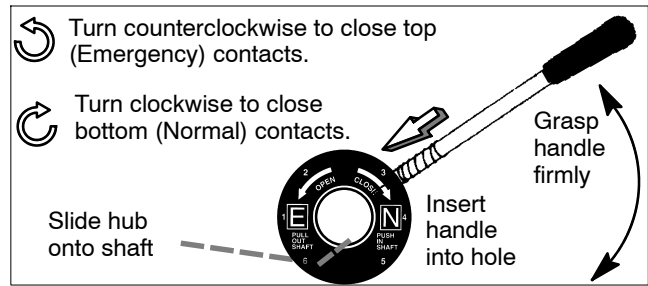

Figure 10-2 Maintenance Handle on Standard-Transition Models
2. **Use the maintenance handle** (if necessary). Open the contacts that will be replaced (if not already open) by using the detachable maintenance handle. See Figure 10-2 and Figure 10-3.
2. **Install the shaft hub and maintenance handle.** Open the contacts that will be adjusted (if not already open) by using the detachable maintenance handle. See Figure 10-2 and Figure 10-3 on page 158.
Insert the maintenance handle completely into the hub (compress handle spring) and grasp it firmly. Use the maintenance handle to close the contacts that you are checking or adjusting (if they are not already closed). See Figure 10-2 and Figure 10-3.